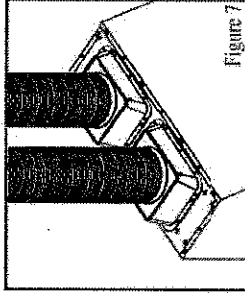

Figure 7
3. Use 8" round steel pipe( follow building codes in your area) to connect the exhaust on the hood to the duct-work above. Use silver tape or duct tape to make all joints secure and air tight. Refer to Figure 7.